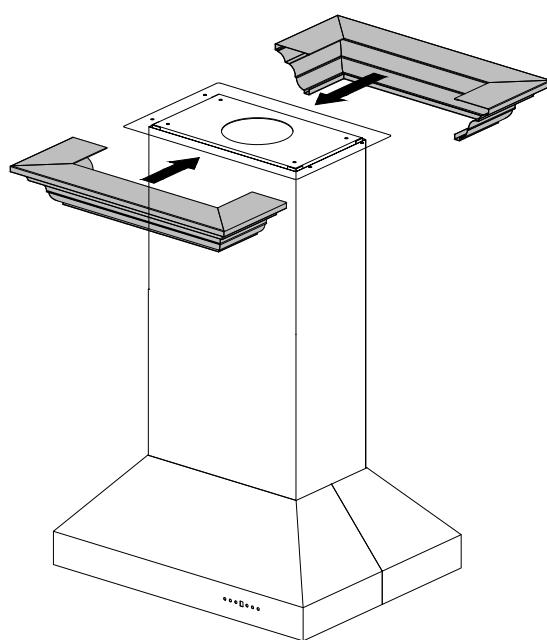

Figure 9
13. Slide the two pieces of crown molding onto each side of the crown bracket and secure into place. The crown should cover the small gap between the top of the chimney and the ceiling above. *Figure 9*